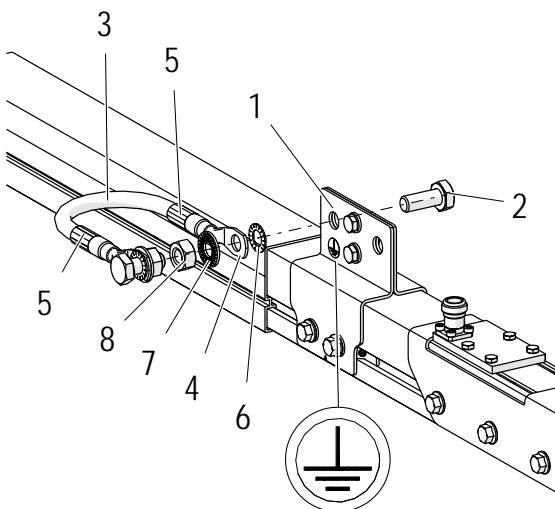

Fig. 55: PE cable is connected to ProfiDAT rail
The ProfiDAT rail must be connected to the customer's PE cable at the start of the system. This cable must be a PE cable and therefore marked green-yellow (see Fig. 55). The cable cross-section can be determined by the customer, but must be designed to correspond to at least half the phase current.
- Connect the green-yellow PE conductor (minimum cross-section 25 mm²) (see Fig. 55).